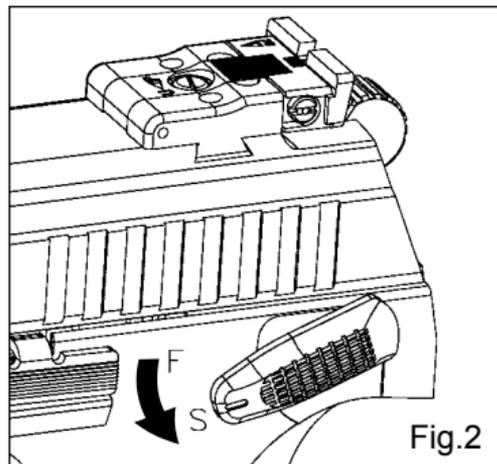

Fig.2
2.1.1 To put the safety ON, move the safety lever to the lower position (S). ("S" for "SAFE") Gun will not fire! (Fig.2)